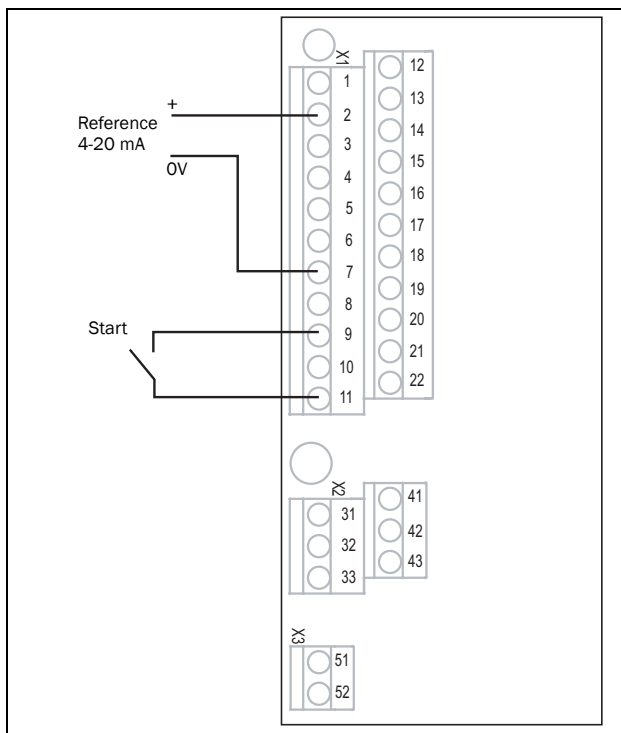

Fig. 54 Wiring
3. Connect a reference value between terminals 7 (Common) and 2 (AnIn 1) as in Fig. 54.
4. Connect an external start button between terminal 11 (+24 VDC) and 9 (DigIn2, RUNR) as in Fig. 54.
14. Connect digital and analogue inputs/outputs as in Fig. 54.